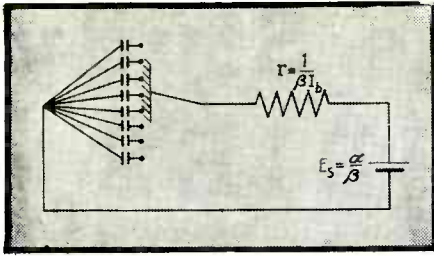

FIG. 7—Equivalent circuit of a dark mosaic undergoing scanning
The solution in Eq. (3) is an exact equivalent of a simple charge of capacitors by a commutating brush in the arrangement shown in Fig. 7. The brush, covering a number of capacitors of a total capacitance C and commutating nNC farads per second, charges them through a resistance $1/\beta I_b$ from a battery of α/β volts.